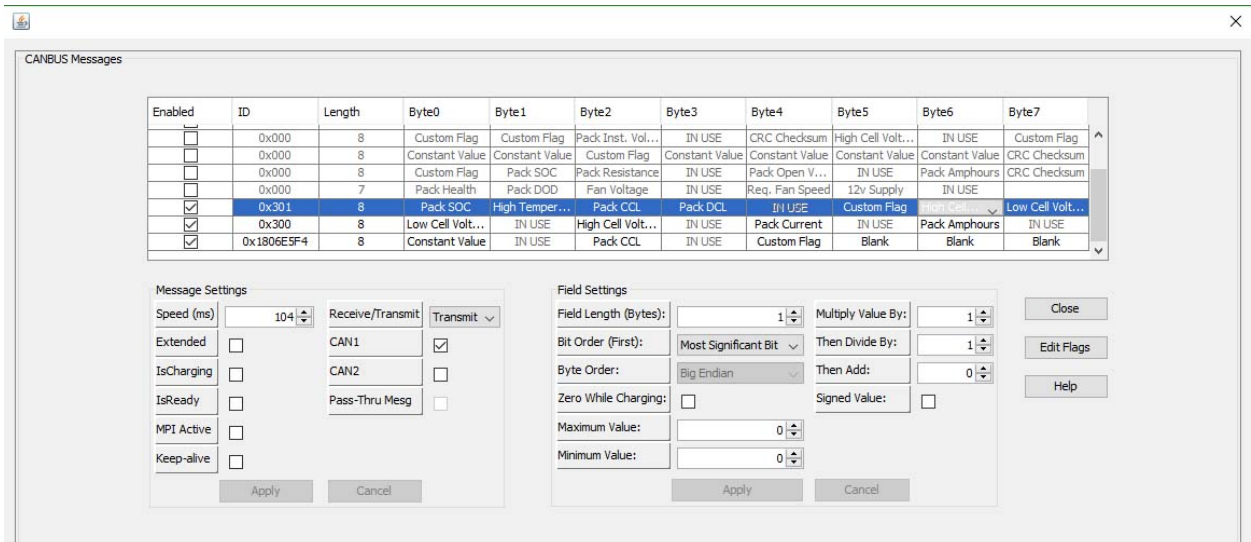

Fig. 37
21. Make sure that the Message and Field Settings for **HIGH CELL VOLTAGE ID** are the same as in (Fig 37).